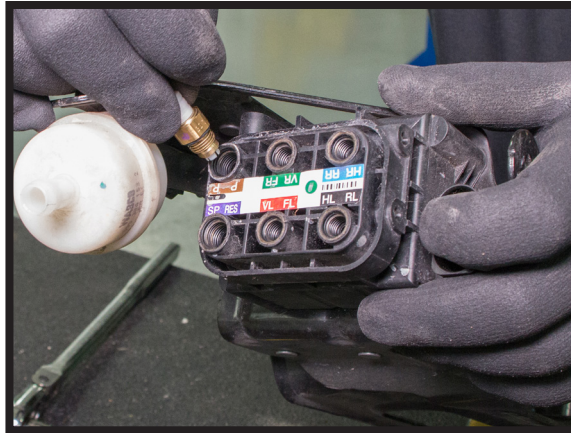

FIGURE 17
2. INSTALL THE SUPPLIED VOSS FITTING ONTO THE VALVE BLOCK IN THE LOCATION OF THE PREVIOUSLY REMOVED BROWN LINE, TORQUING TO 2 N.M. (FIGURE 17)